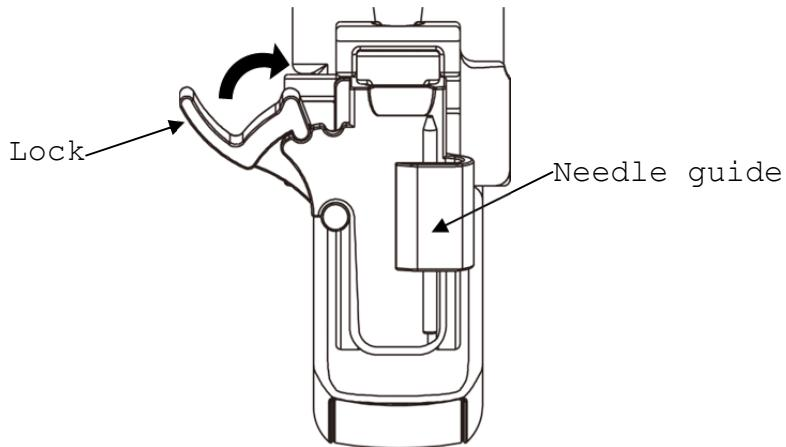

Fig.14 Attaching the needle guide
- 2) Push the lock toward the bracket to secure the lock. Make sure the needle guide is firmly attached to the bracket. (See Fig.14)